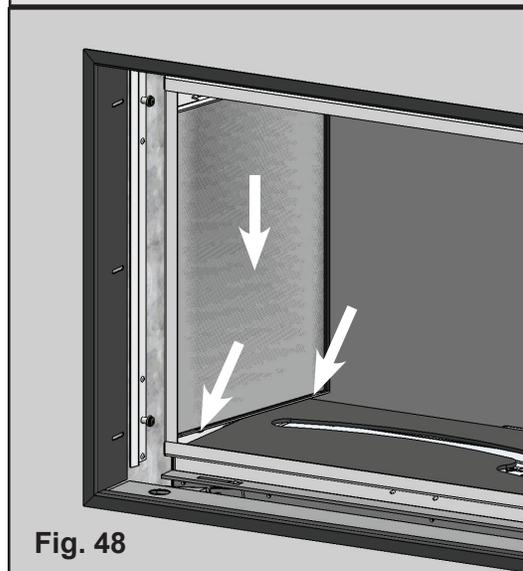

Fig. 48
2. Handle the side glass by the edges to prevent smudging, wear clean vinyl gloves if possible. Seat the side glass on the side glass support, the back edge should make contact with the rear glass. **(Fig. 48)**